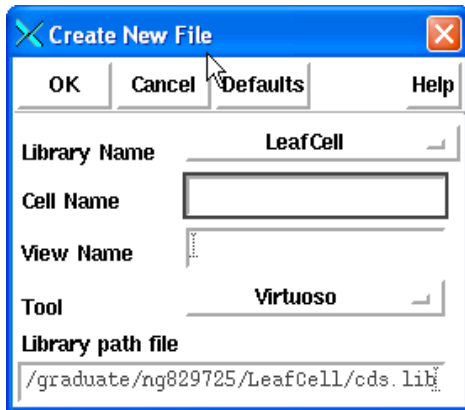

Figure 17: Pop-up: Creating a new cell view
1. Go to the library manager window, click at the *LeafCell* library, and then go to: *File... New... Cell View*. A pop-up like Figure 17 should appear.